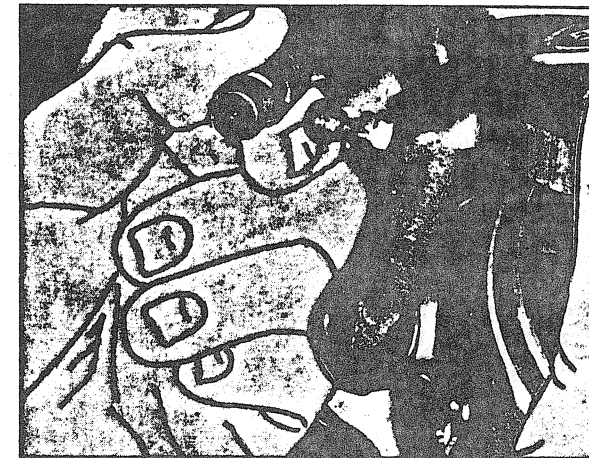

FIGURE 1
- Disconnect the reverse cable from the reverse bucket by sliding back the sleeve on the ball joint in a forward and upward movement (fig. 1).